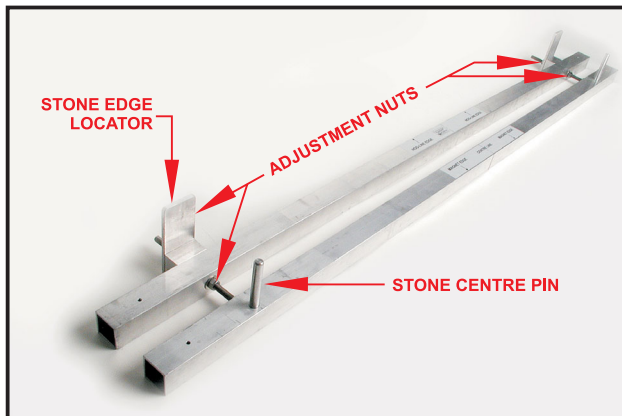

FIGURE 1. Magnet Locating Jig.
- 2) Loosen the four adjustment nuts shown in Fig. 1.